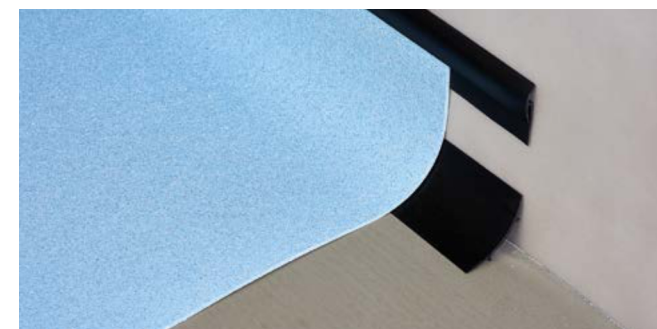

Figure 8 CS-N capping strips
**3.13.1 Fitting Ejecta capping strip (type CS-N) Figure 8****KEY POINT**